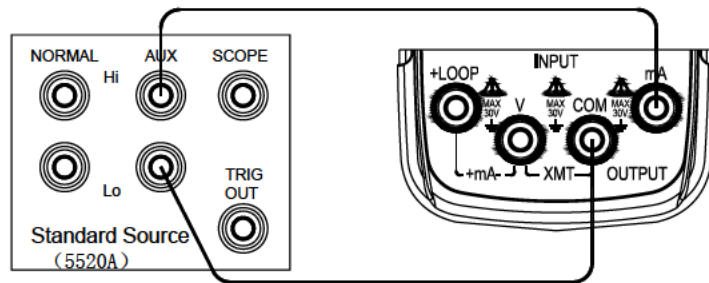

Figure 10-2
- 3) Connect to the Instrument as shown in Figure 10-2;